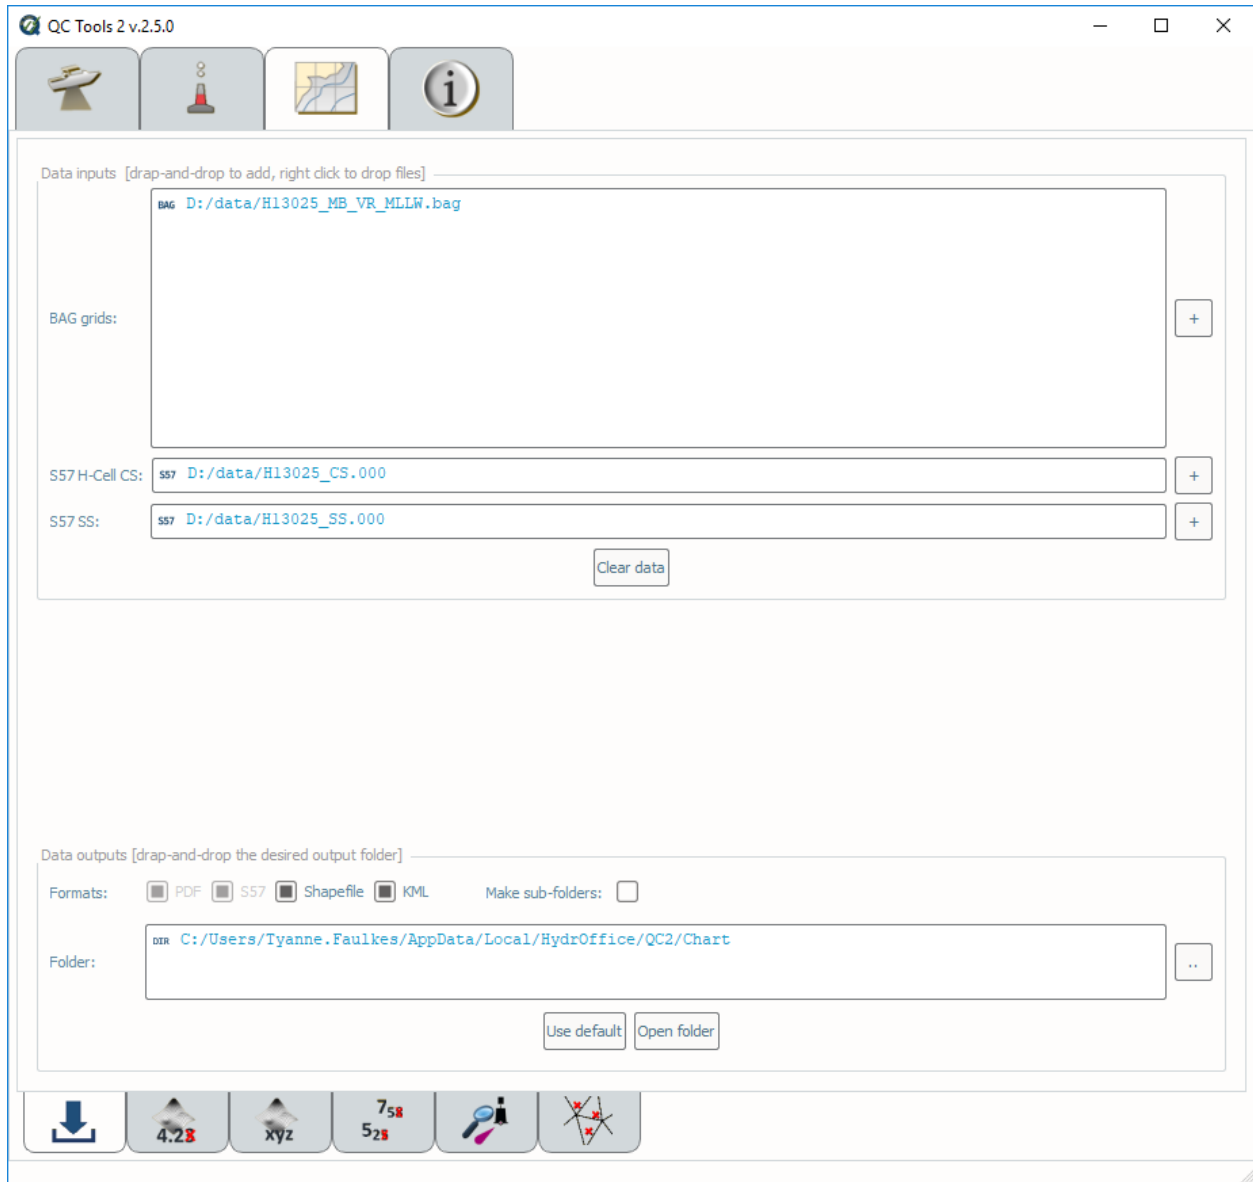

Fig. 2.33: Chart review tab.
- With the addition of a grid, feature file, and survey sounding selections, the **Grid truncate**, **Grid xyz**, **S57 truncate**, **Triangle Rule**, and/or **Scan Features** tabs on the bottom of the interface will become available (Fig. 2.33).